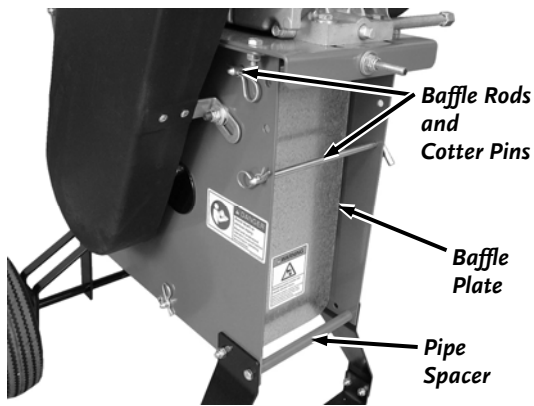

Figure 3
4. Remove the two Baffle Rods and Cotter Pins that go through the top of the Baffle Plate and the one behind it (**Figure 3**).